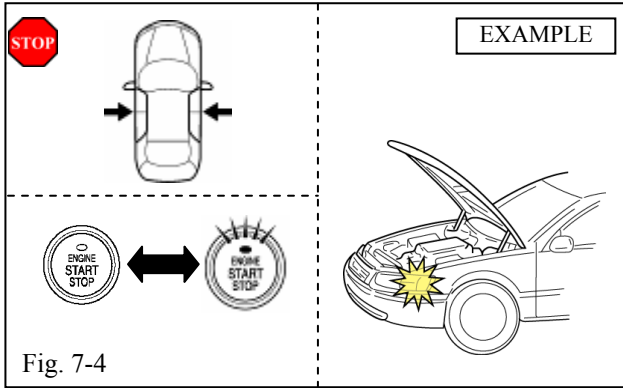

Fig. 7-4
- (d) Ensure all Doors are closed and the Smart Key is in your possession. (Fig. 7-4)
- (e) Cycle the “Engine Start Stop” Button from “OFF” to “ON” 5 times. (Fig. 7-4)
- (1) Place the Shift Lever in the "P" (parking) or "N" (neutral) Position.
- (f) Once the fifth cycle has been completed, the Hazard Lights Flash once. (Fig. 7-4)
- (g) Press the “Engine Start Stop” Button once more to turn the ignition to OFF. (Fig. 7-4)